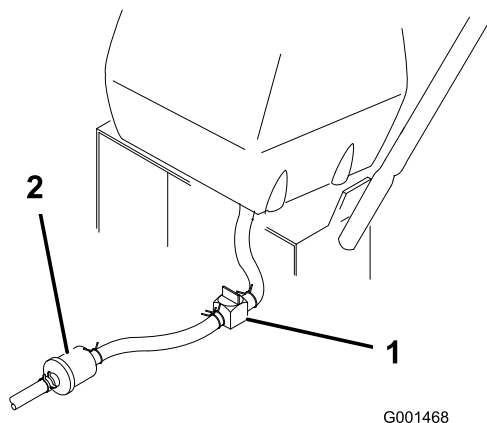

Figure 32
2. Close the fuel shut-off valve at the fuel tank (Figure 32).
3. Squeeze the ends of the hose clamp together and slide it up the fuel line away from fuel filter (Figure 32).
4. Pull the fuel line off the fuel filter (Figure 32). Open the fuel shut-off valve and allow the gasoline to drain into a gas can or drain pan.
7. Open fuel shut-off valve at fuel tank (Figure 32).
3. Close fuel shut-off valve at the fuel tank (Figure 32).